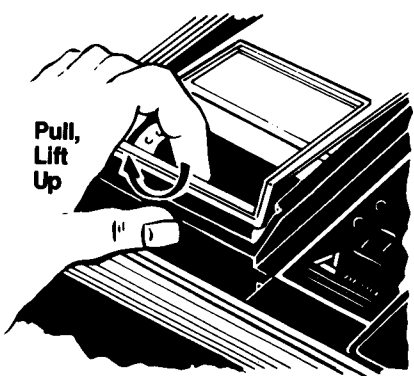

Fig. 3
2. Remove top cover. See fig. 3.
- a) Remove top cover—pull bottom ledge of frame toward you and lift. See fig. 3 or 4.